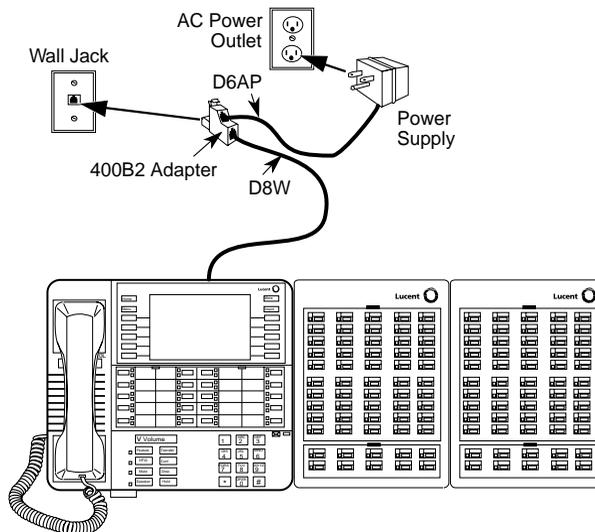

Figure 3-29. Wiring for Auxiliary Power
- ▶ 5. Turn the telephone and the DDS unit(s) face up with the telephone now to the left of the DDS unit(s). See Figure 3-29.
- ▶ 8. If auxiliary power is required, refer to the following steps and Figure 3-29. The combined total length of the D6AP and D8W cords you use must not be more than 50 ft. (15 m).